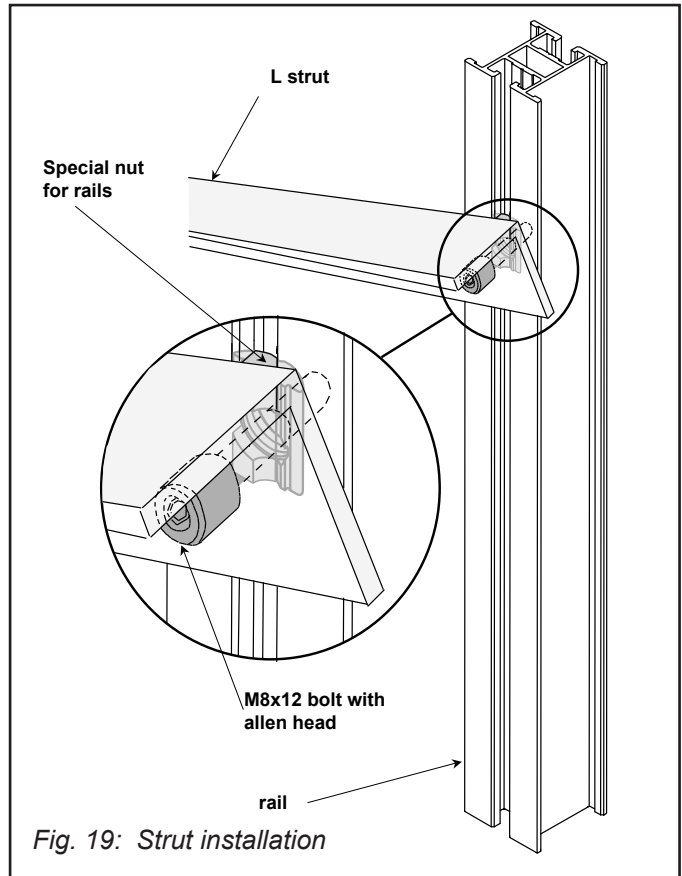

Fig. 19: Strut installation
- Install the strut between the two triangular supports (Fig. 19). Following Fig. 19, insert special M8 nuts into the triangle support rail. Then lay the strut onto the rails and fix it with M8x12 bolts with washers (Fig. 19).